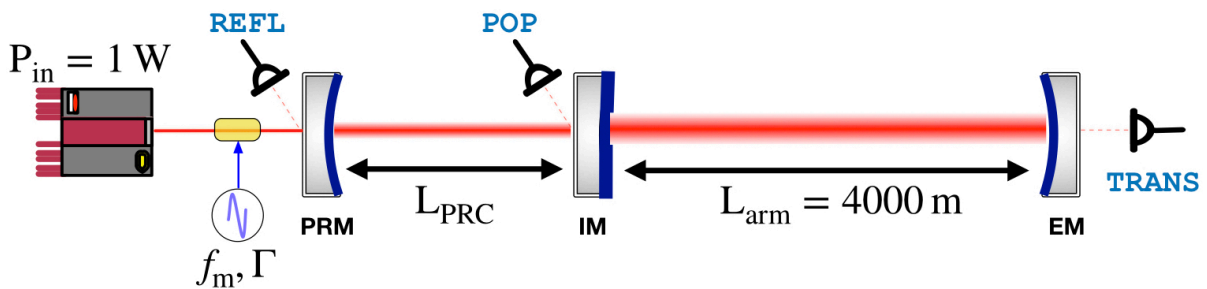

Fig 1: Schematic representation of a coupled cavity system
- a. From Figure 1, we can model the coupled cavity as a two mirror cavity, whose end mirror (called a compound mirror) is the 4 km long arm cavity. The PRC macroscopic length should be set such that f_m and the carrier field are *both* resonant in the PRC when the arm cavity is resonant for the carrier field. Rearranging the equations given above, you should find that candidate PRC lengths are given by $L_{PRC} = (n + \frac{\theta}{2\pi})\frac{c}{2f_m}$, where $f_m = 9.100230$ MHz is the modulation frequency and θ is the complex argument of the arm cavity reflectivity at this frequency. To be consistent with other design considerations, find a candidate PRC length that lies between the range 45m -70m.